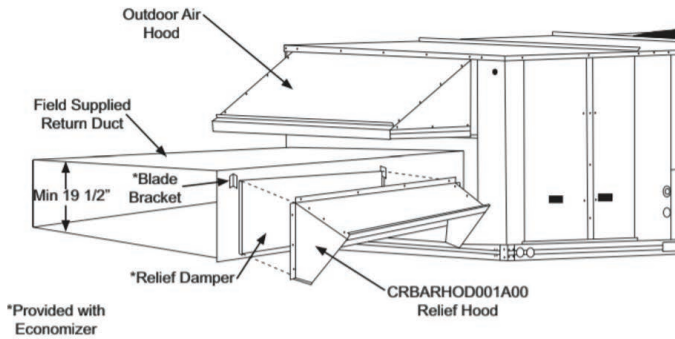

Fig. 31 — Installing CRBARHOD001A00 Over Relief Damper
- Using the blade brackets, install the relief damper onto the side of the return duct (see Fig. 31). The two brackets and relief damper are provided with the economizer.
Caulk the backside of the mating flanges to ensure a watertight seal. Install the CRBARHOD001A00 over the relief damper and screw to the return duct, as illustrated in Fig. 31.